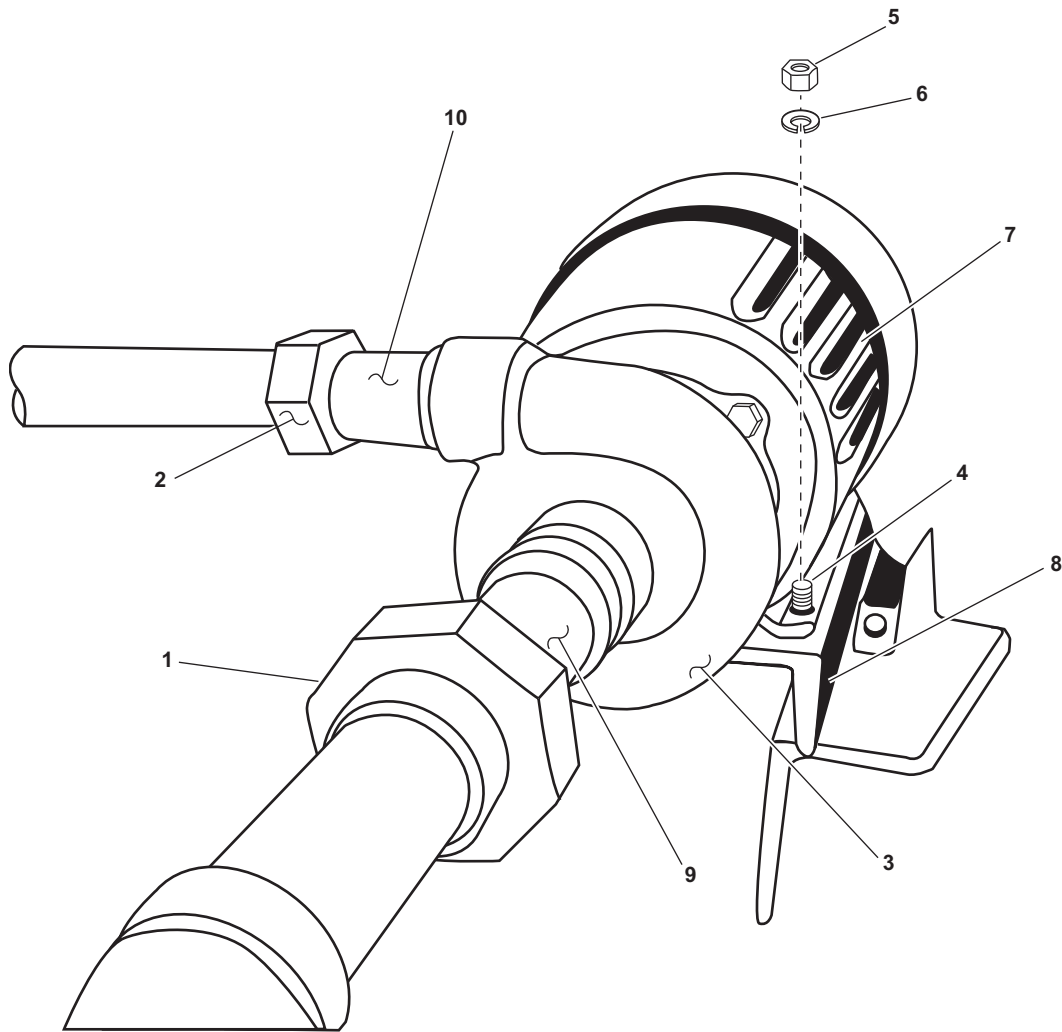

Figure 2. MSD Discharge Pump, Fittings, and Fasteners
4. Disconnect the inlet union (figure 2, item 1) and outlet union (figure 2, item 2) from the pump (figure 2, item 3) using the two wrench method.
5. Remove the four bolts (figure 2, item 4), four nuts (figure 2, item 5), and four lockwashers (figure 2, item 6) that secure the motor (figure 2, item 7) to the mounting plate (figure 2, item 8). Discard the lockwashers.
6. Remove the entire Marine Sanitation Device (MSD) discharge pump (figure 2, item 3) and attached motor (figure 2, item 7) to a suitable work area.
7. Disconnect the inlet fitting (figure 2, item 9) and outlet fitting (figure 2, item 10) from the pump (figure 2, item 3).
1. Clean the male pipe threads of the inlet fitting (figure 2, item 9) and outlet fitting (figure 2, item 10) with a wire brush.
2. Wrap the male pipe threads with of the inlet fitting (figure 2, item 9) and outlet fitting (figure 2, item 10) with antiseizing tape.
3. Install the inlet fitting (figure 2, item 9) and outlet fitting (figure 2, item 10) on the pump (figure 2, item 3).
4. Position the entire MSD discharge pump (figure 2, item 3) and attached motor (figure 2, item 7) on the mounting plate (figure 2, item 8).
5. Tighten the inlet union (figure 2, item 1) and outlet union (figure 2, item 2) on the pump (figure 2, item 3) using the two wrench method.
6. Secure the MSD discharge pump (figure 2, item 3) and attached motor (figure 2, item 7) to the mounting plate (figure 2, item 8) with the four bolts (figure 2, item 4), four nuts (figure 2, item 5), and four new lockwashers (figure 2, item 6).